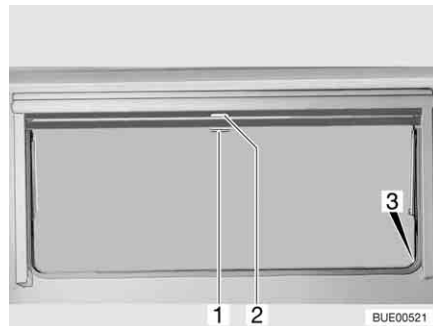

Fig. 59 Hinged window
- Pull blind at the handle (Fig. 59,2) downwards. If the blind is to be completely closed, it is suspended into the locking devices (Fig. 59,3) situated on both sides of the window frame.
- If the blind is completely closed: Press handle (Fig. 59,2) downwards and, at the same time, tilt it slightly inward. The blind can be taken out of the locking devices situated on both sides of the window frame.
- If the blind is in an intermediate position: Pull the handle (Fig. 59,2) slightly downwards until the locking device releases.
- Pull insect screen at the handle (Fig. 59,1) down and hang it into the locking devices (Fig. 59,3) situated on both sides of the window frame.
- Press handle (Fig. 59,1) downwards and, at the same time, tilt it slightly inward. The insect screen can be taken out of the locking devices situated on both sides of the window frame.